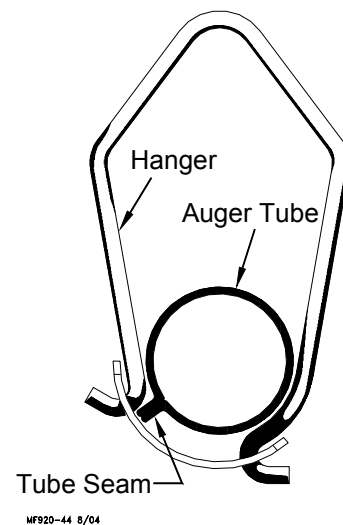

Figure 33. Hanger Installation
3. To achieve total feed drop out all along the system, the Chore-Time logo should be centered at the crown of the tubes and all the Hangers should be installed as shown in **Figure 33.**